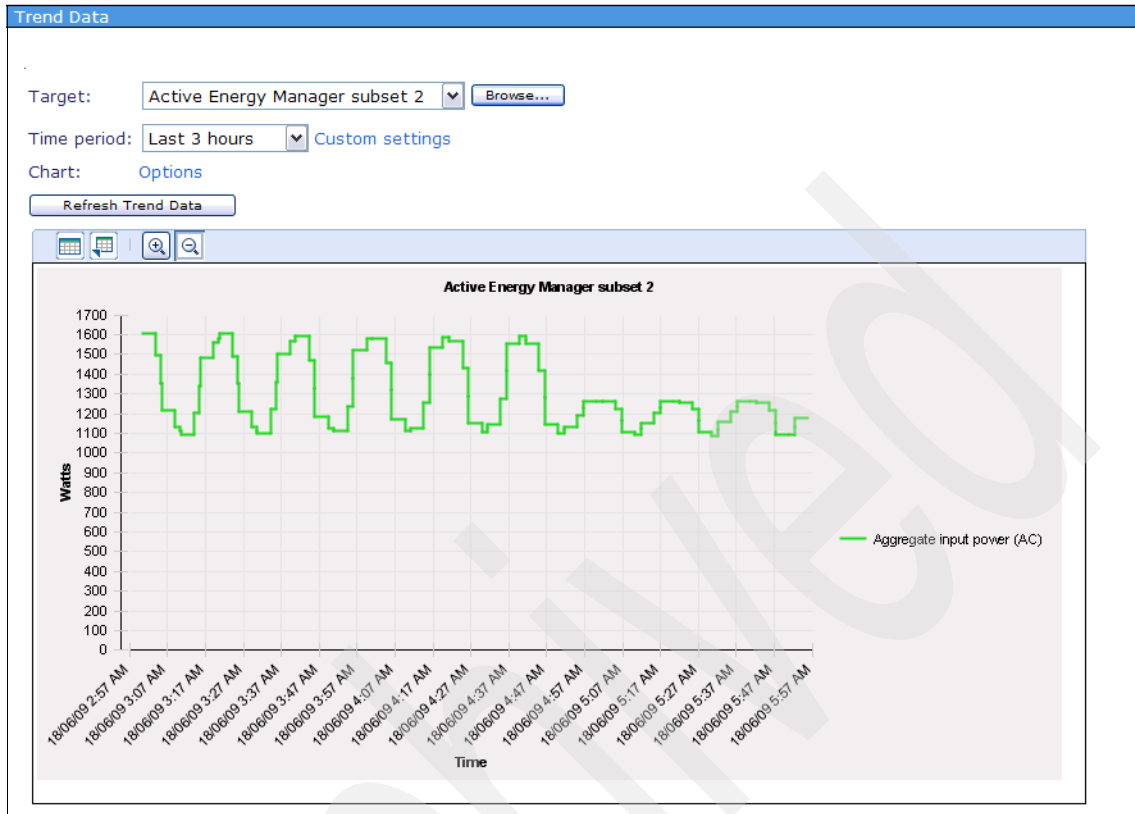

Figure 7-24 Setting a power cap for a group of power managed systems - 4
- Figure 7-24 on page 317 shows the trend data graph for the group after the power cap has been set to 400 watts (around 4:47 pm). Notice that, for a group, only the aggregate input power is shown, where the aggregate power cap for the group is  $3 \times 400 = 1,200$  watts. You can see that the aggregate input power is actually slightly greater than the aggregate power cap of 1,200 watts. The reason for this is that the power cap is based on output power (DC) whereas it is the aggregate input power that appears on the graph. The input power is always slightly greater than the output power because there are power losses in the power supplies that are converting input power (AC) to output power (DC).